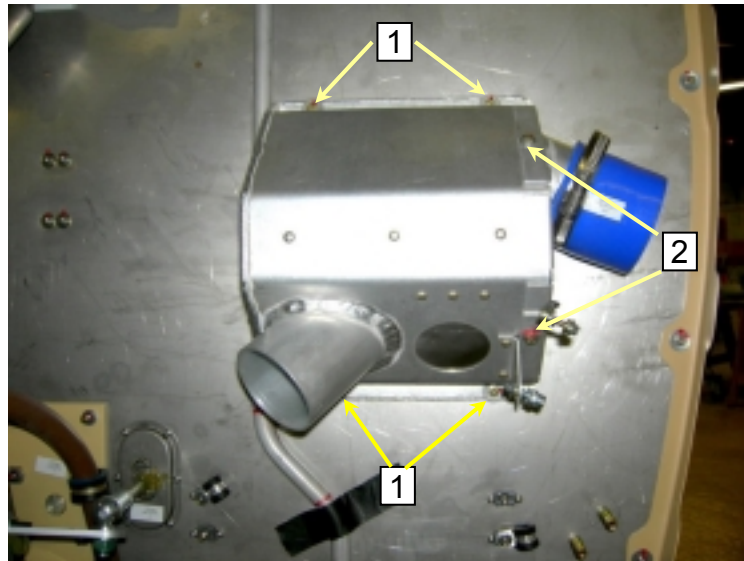

Fig. 71-61d. Air intake box
- (3) Loosen the two housing cover fastening screws. See Fig. 71-61d.
- (4) Pull the air filter out of the air filter housing.
- (1) Make sure that the filter support grids are in position on the air filter.
- (2) Put the air filter in position into the air filter housing.
- (3) Tighten the two cover fastening screws. See Fig. 71-61d.
- (4) Connect the airplane main battery refer to Chapter 24, Maintenance Practices.
- (5) Install the engine cowlings. Refer to the airplane manufacturer's specifications.